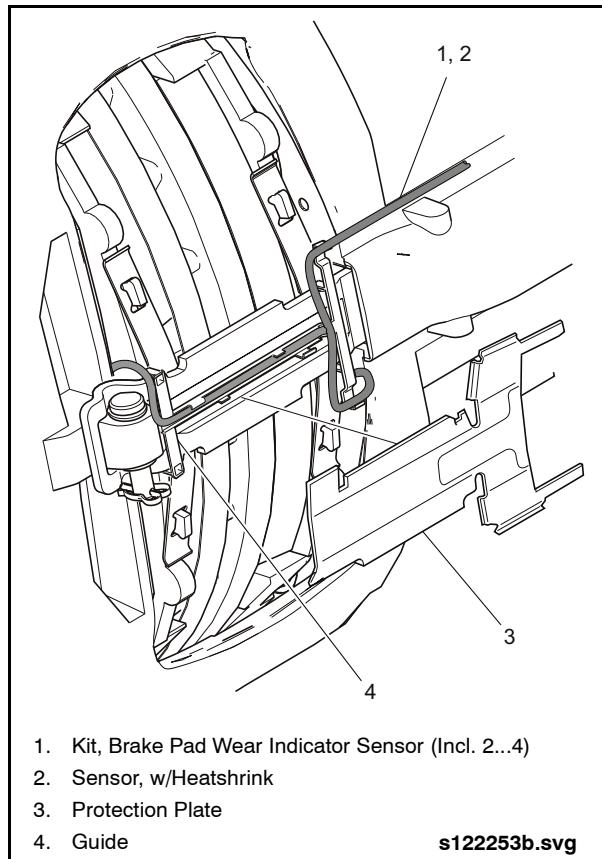

Fig. 2-118: Wear Sensor Harness Routing
4. Remove the wear sensor harness protection plate from the brake pad retainer. See "Fig. 2-118: Wear Sensor Harness Routing" on page 105.